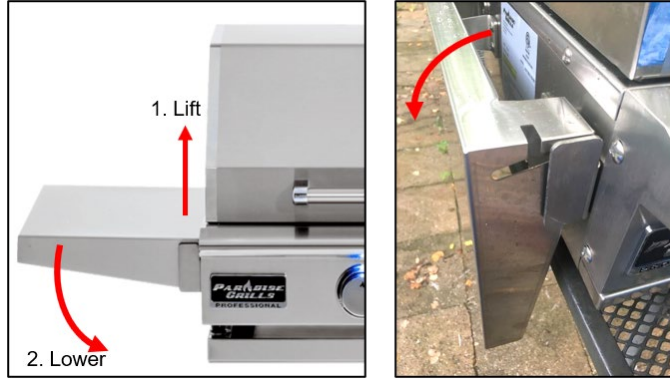

Figure 26 Lower the Side Shelf
6. To lower the shelf, lift on both sides at the bracket end, then lower the outer edge; reverse to raise the shelf (Figure 26)